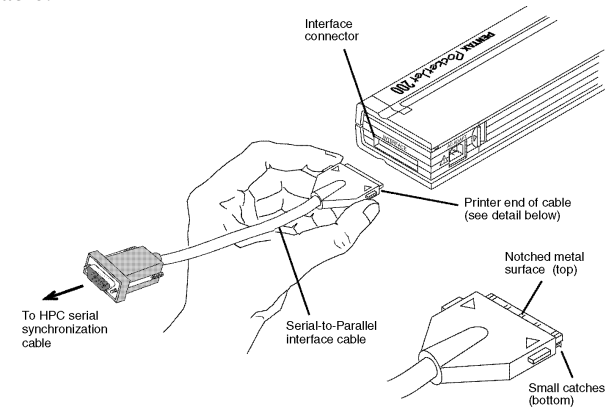

FIGURE 7. Connecting the PocketJet to your computer
3. Insert the printer end of the cable into the interface connector on the side of the printer. See example, Figure 7. This is the proper connection regardless if this is a serial, parallel, Infrared, or USB cable.